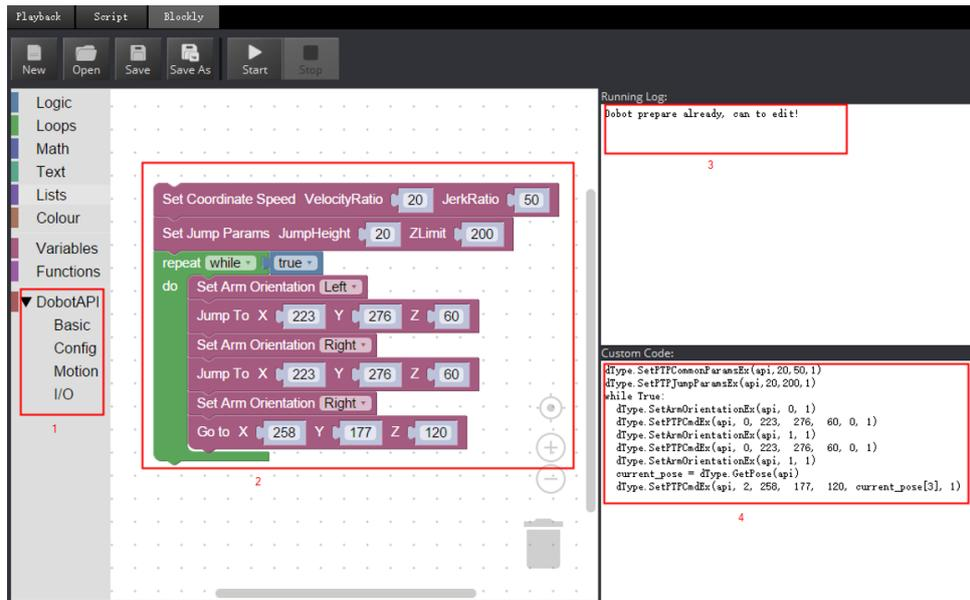

Figure 6.15 Blockly graphic programming
- Step 2** Drag the blockly module on the left pane of the **Blockly** page to program, as shown in Figure 6.15.